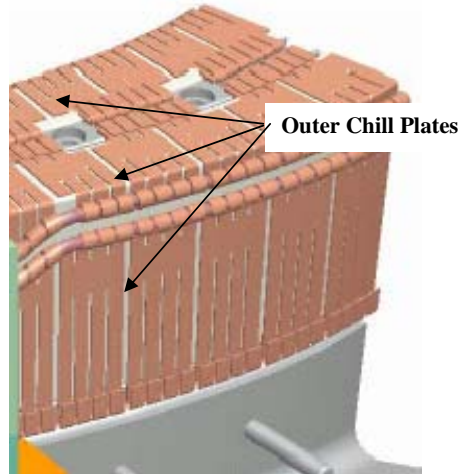

Figure 28- Outer Chill Plates
- 6.33.2 Continue installing the balance of the chill plates and cooling tubes per section 6.32.2 and 6.32.3. [Figure 28- Outer Chill Plates]